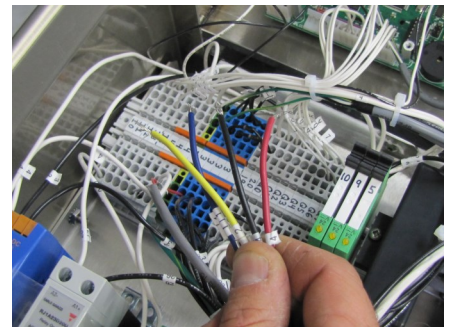

Figure 19
19. Identify the four [blue(i1), yellow(i2), red(4) and black(4)] wires coming from the valve motor as shown in Figure 19.